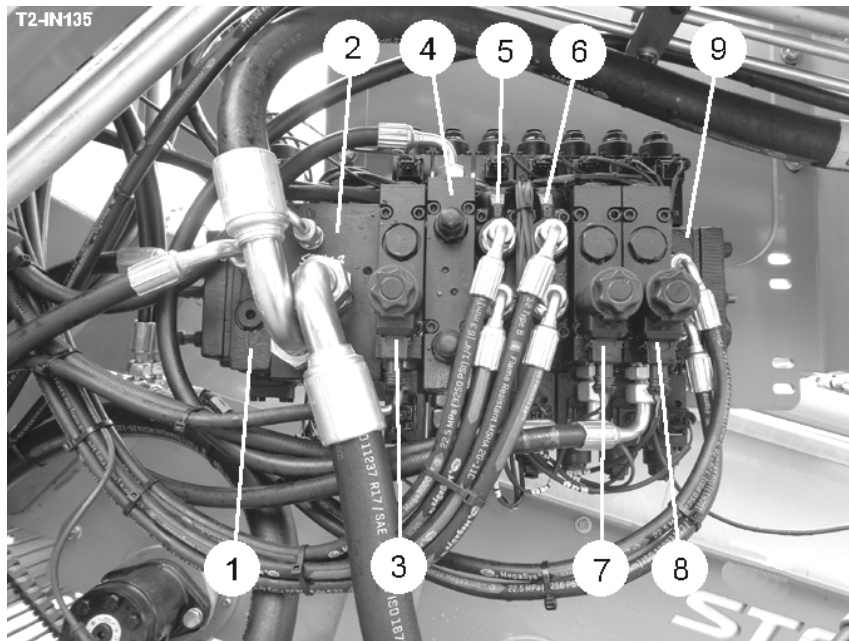
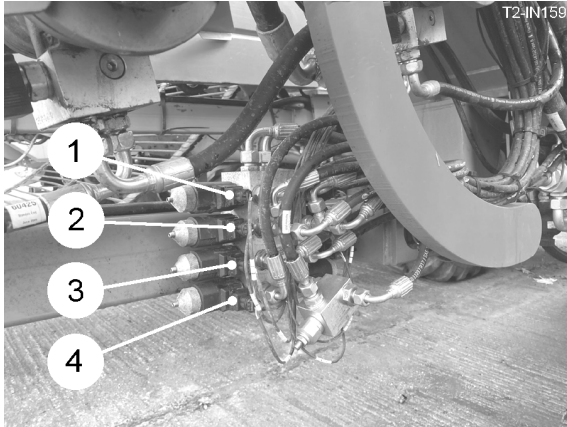
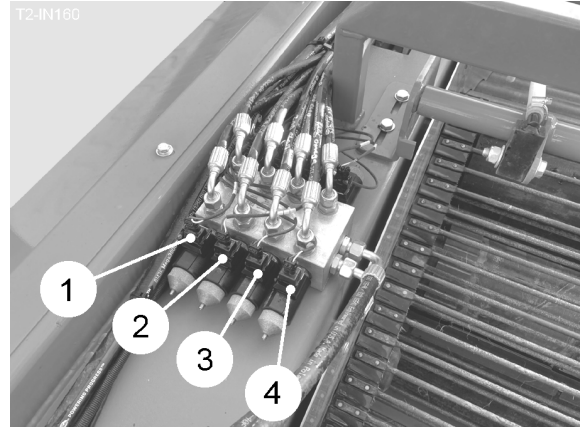

Fig 24
Fig 25
Fig 26
The hydraulic ram services and discharge elevator/spreader drives are supplied with hydraulic oil from the tractor. A minimum supply of 50 litres/minute is fed through a pressure filter into the inlet section of the auxiliary valve bank (see fig. 24). The system will accept up to 80 litres/minute maximum. The flow rate of all the valves are proportionally controlled from the electrical system and are adjustable via the touch-screen. Additional ram services are powered by the master valve section (item 9, fig. 24) via slave valves. The slave valve (see fig. 25) operates the drawbar, web split, machine level and wheel tracking rams. The slave valve (see fig. 26) operates the 1st and 2nd separator angles and clod roller heights. The elevator valve section (item 1, fig. 24) powers the discharge web and spreader motors. The elevator valve has priority over the ram service valves. The flow rate for the spreader is adjustable independently up to the flow set for the elevator. The return oil flow from the valves and motors recombines and is returned to the tractor, ideally through a low back pressure or free-flow return coupling. No separate relief valve is fitted to the auxiliary circuit, the system relies totally on the tractor relief valve.